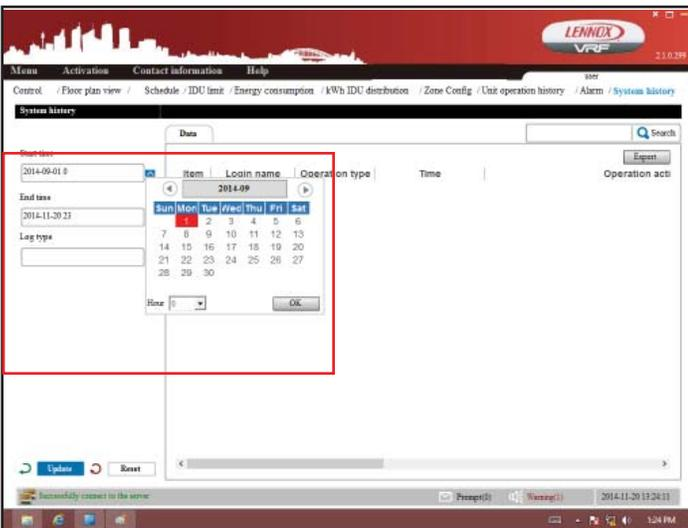

Figure 66. Select Start Date
1. Tap the Start time field. A calendar displays. See figure 66.